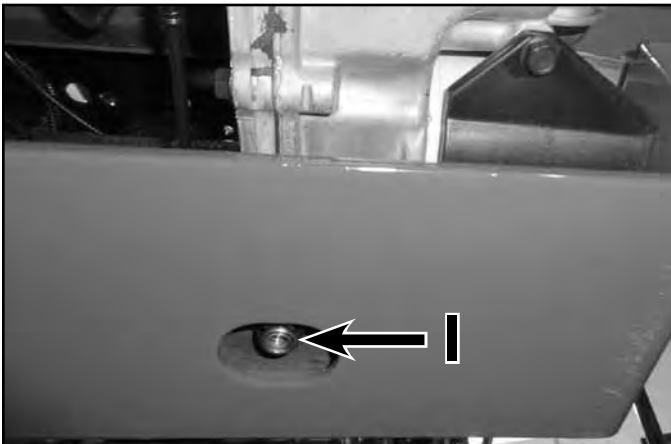

Fig. 075
5th - Torque the two fasteners (I) to specification – 30 ft-lbs. (40 Nm) (Fig. 075)